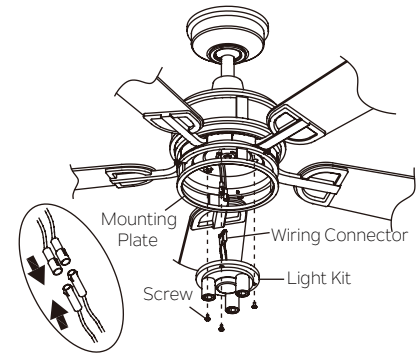

Fig. 22
Step 1. Remove the 3 preinstalled screws from the mounting plate as shown. Save them for reuse on step 3. (Fig. 22)
Step 2. Hold the light kit close to the mounting plate and connect the WHITE wires from the mounting plate and fan by pushing the connectors together. Follow the same procedure with the BLACK wires. (Fig. 22)
Step 3. Tuck the connections neatly into the light kit. Align the screw holes on the light kit and mounting plate. Securely tighten all 3 screws removed previously. (Fig. 22)